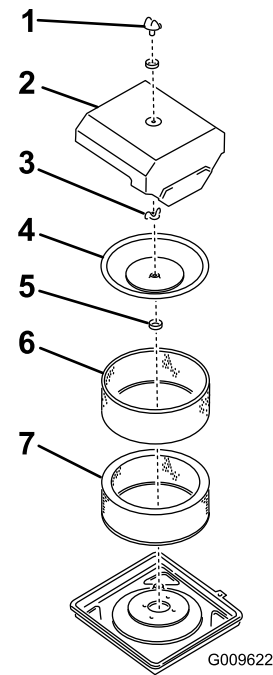

Figure 40
1. Remove the knob, O-ring, and cover (Figure 40).
4. Install the element with the pre-cleaner, breather seal, inner cover, wing nut, air cleaner cover, O-ring, and knob (Figure 40).